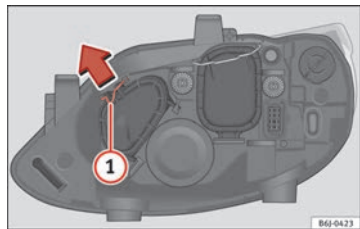

Fig. 162 Side lights.
- Move the loop ① in the direction of the arrow and remove the cover ⇒ Fig. 162.